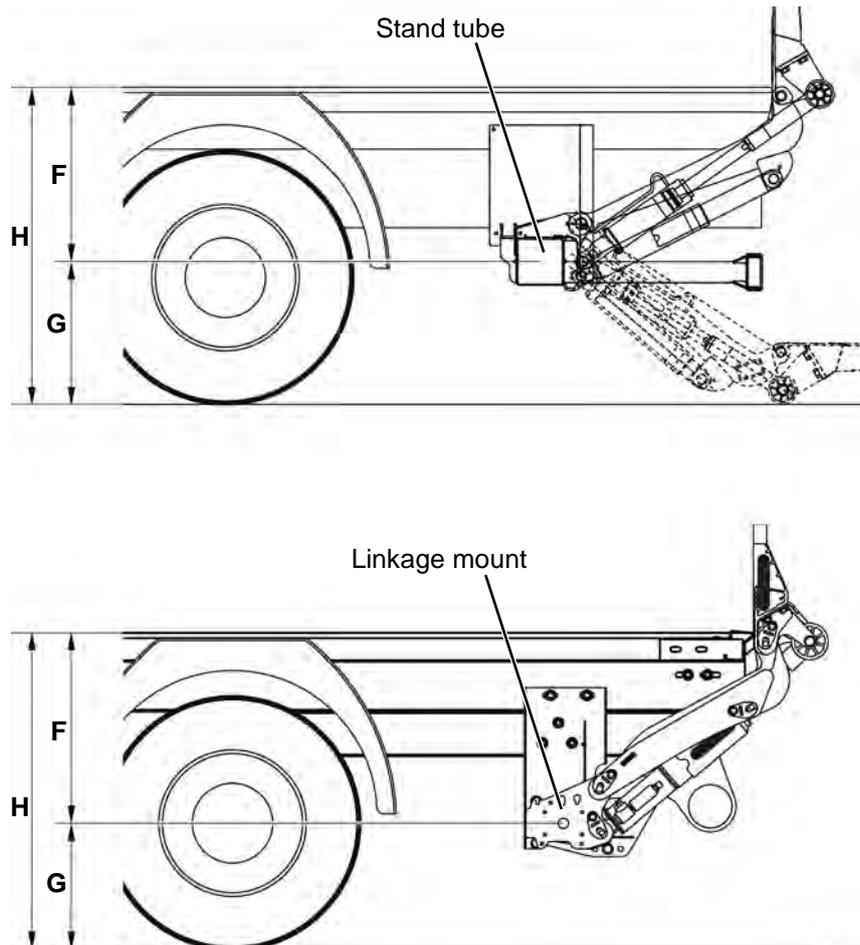

Figure 19: Positioning the stand tube / linkage mounts
- ▶ Position the stand tube / linkage mounts at a height according to the specified dimensions in the attachment report (dimensions "F", "G" and "H" in the attachment diagram, see Figure 19).